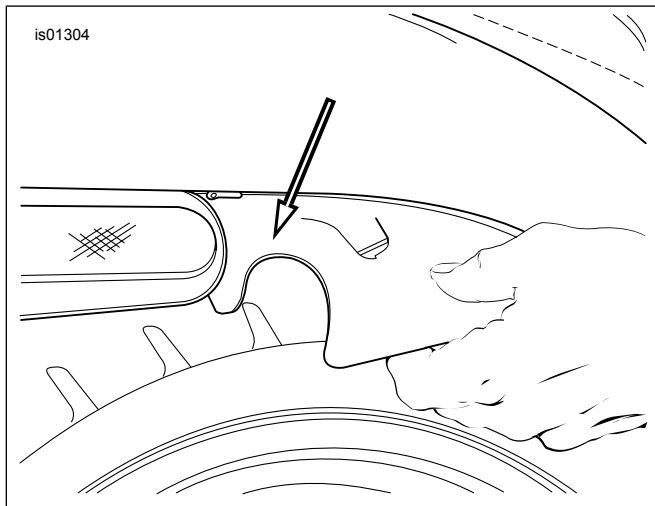

Figure 2. Lower the Mud Flap (2002-2006 VRSCA/B/D)
3. See Figure 2. Lower the mud flap from the installed position and allow it to rest on the rear tire.